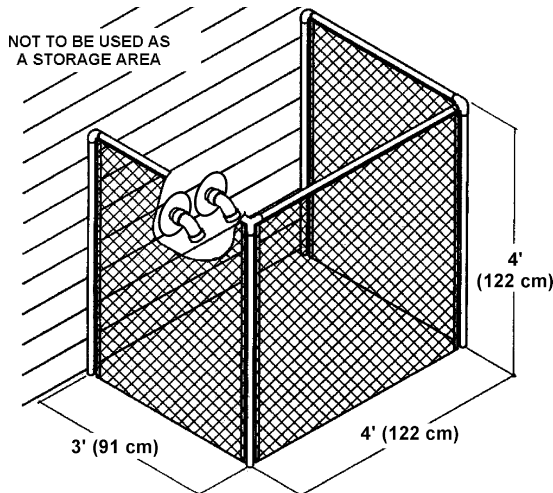

FIGURE 7.
- The location selection must provide clearances for servicing and proper operation of the water heater, see Figure 7.
When the water heater outlet terminal is low enough to be touched accidentally, or is accessible to small children, a wire mesh chain link fence (as shown in Figure 7) may be used. Care should be taken to maintain adequate ventilation around the outlet terminal. If a chain link fence is installed, it must not be used as a storage area for items that may block proper ventilation.